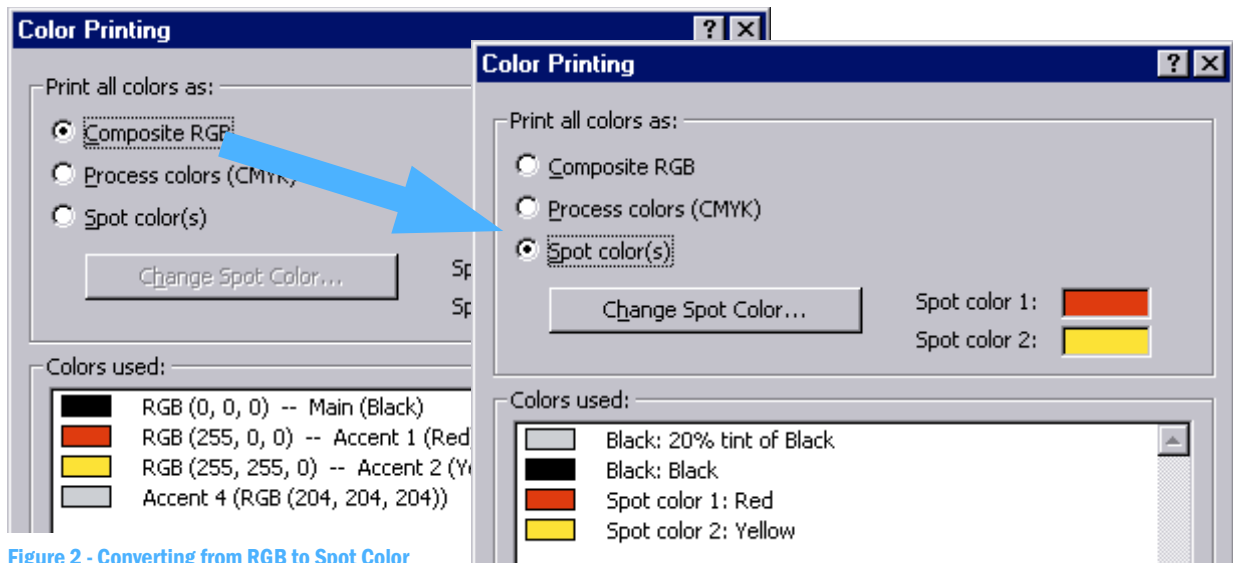

Figure 2 - Converting from RGB to Spot Color
- Click the **Tools** menu, point to **Commercial Printing Tools**, and then click **Color Printing** (Figure 2).
- In the **Color Printing** dialog (figure 2, above), click the **Spot color(s)** button.